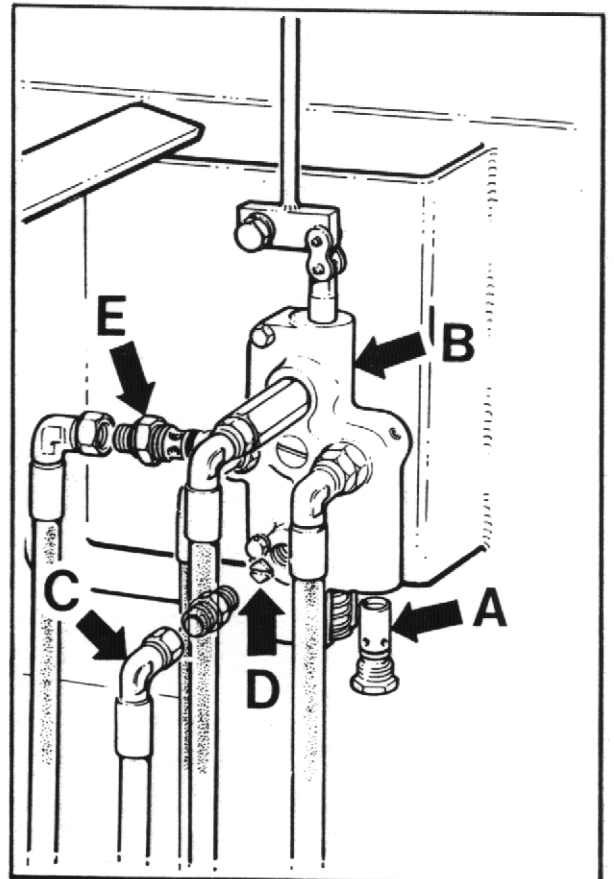

FIG. 10
4. Remove relief valve cartridge (A) (hexagon head) from the bottom of the control valve (B) (See fig.10) and replace with a new one.
5. Remove hose adaptor (C) from control valve (See fig.10), remove hexagonal orifice plate (D) and wash in white spirit. Dry using moisture-free compressed air. DO NOT poke wire etc. into the orifice. Re-fit plate and hose adaptor with slot of orifice plate facing outwards.
6. Remove relief valve cartridge (A) (hexagon head) from the bottom of the control valve (B) (See fig.10) and replace with a new one.
7. Replace flow control valve (E) (See fig.10). (FOUR A50/60/80 only)